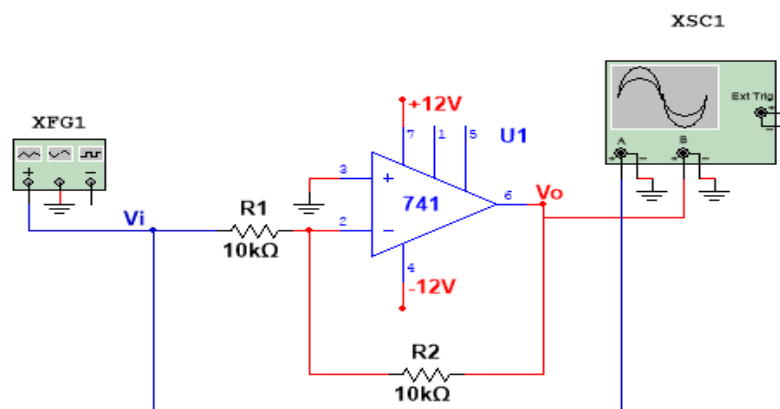

Figure 7.1: Inverting Operational Amplifier
1. Connect circuit diagram according to given circuit shown in Figure 7.1.